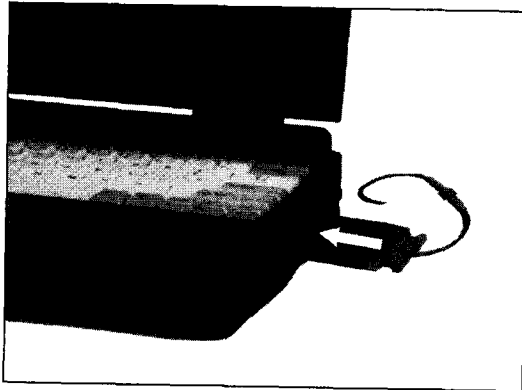

FIGURE 19.3 Installing a PC Card in a laptop.
- Slide the card into a free and compatible PC Card slot (as shown in Figure 19.3).